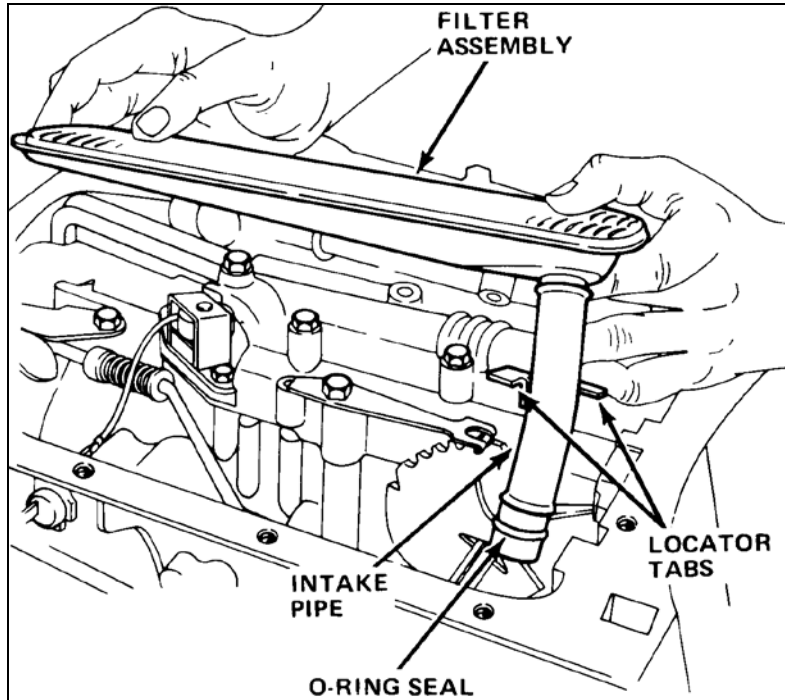

FIGURE 2-18
Remove and discard the filter (42), and remove the intake pipe (45). Remove and discard the o-ring seal (46) from the case end of the intake pipe. See Figure 2-18. If the o-ring is not present on the pipe, you will find it in the pipe bore in the case. 1964 to 1967 models use a one piece filter assembly as shown in Figure 2-19.